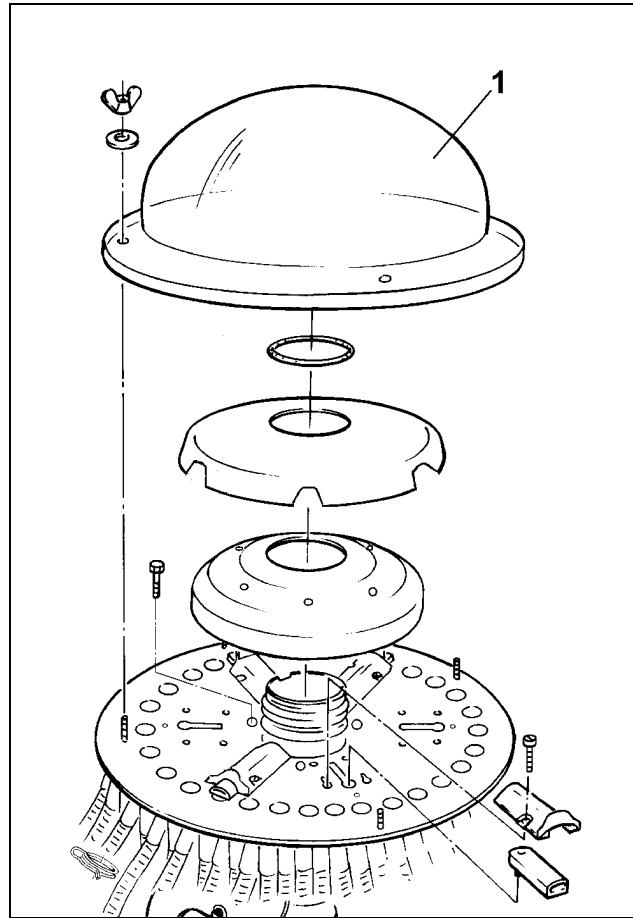

Fig. 108
- the translucent plastic flap (Fig. 108/1)
- For cleaning the distributor head remove outer hood (Fig. 108/1) of the distributor head.